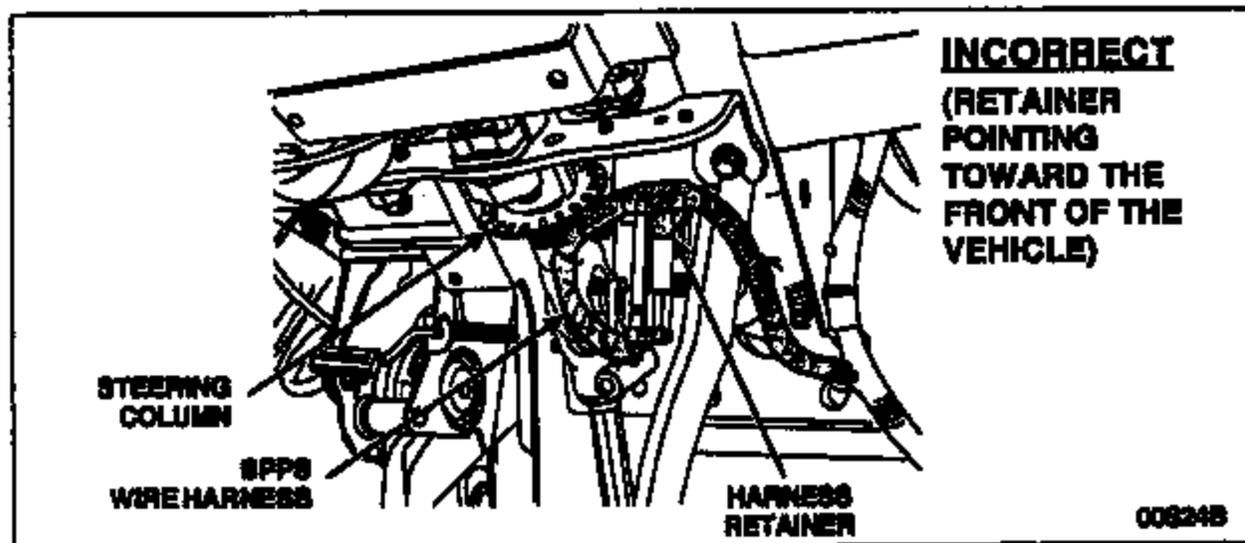

FIGURE 2
- b) **INCORRECTLY ROUTED HARNESS:** The harness retainer will be installed from the back to the front and the harness will be located very close to (if not touching) the steering column rotating parts. See Figure 2.